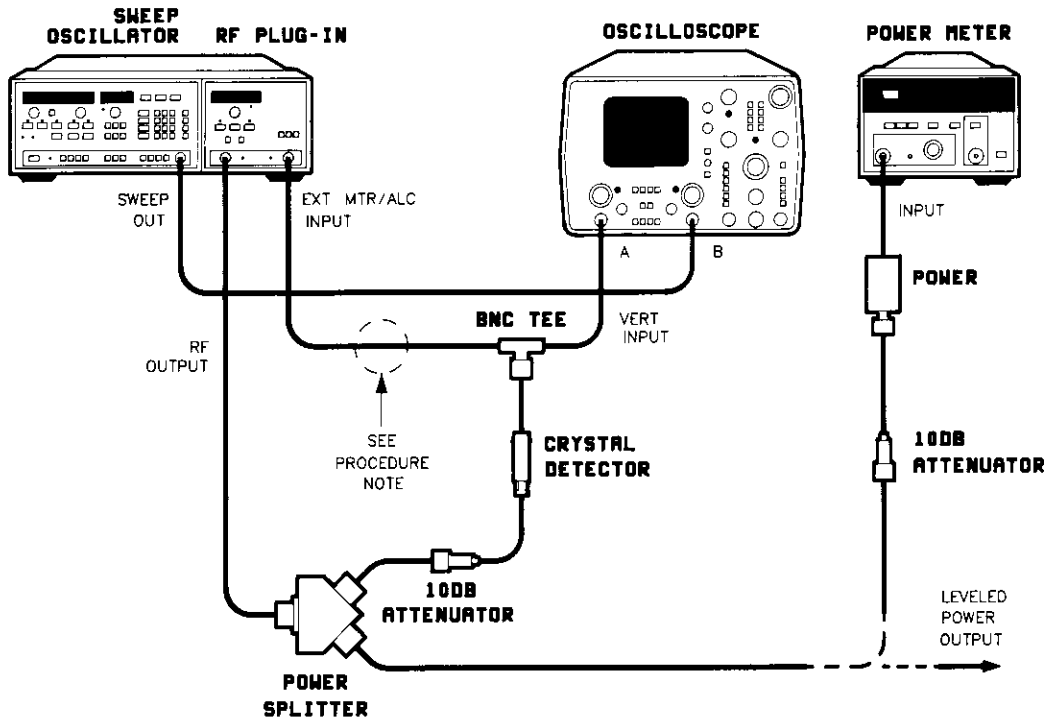

Figure 3-8. External Crystal Detector Leveling Setup
1. Connect the equipment as shown in Figure 3-8. Turn the instruments on and allow them to warm up for at least 30 minutes.